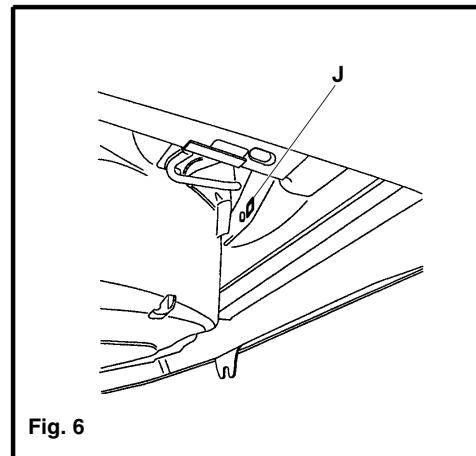

Fig. 6
3. Engage the cage nuts M12 in the back panel at point (J) and (K). See fig. 6 and 7. Join the (1) central cross member to the back panel without blocking using two bolts HM12x30, plate washer and spring washers. Join the connection arms to the chassis using bolts HM12x90, M12x100, M12x110 and F HC M12x100, nuts, plate washers and spring washers as shown in fig. 8 and 9. Assemble the towbar crossmember with the connection arms using bolts HM12x40, nuts, plates washers and spring washers.